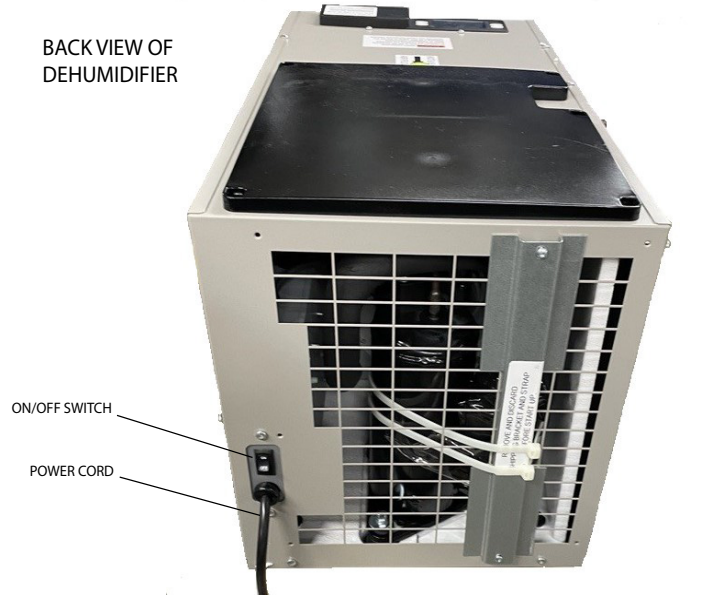

Fig. 1 – Back View of Dehumidifier
1. Use the ON/OFF Power Switch, located by the power cord, to apply power to the dehumidifier. (Fig. 1)
2. Loosen the retaining screw on the filter access door (Fig. 1) from the drain side of the dehumidifier until it releases and then remove the filter door.